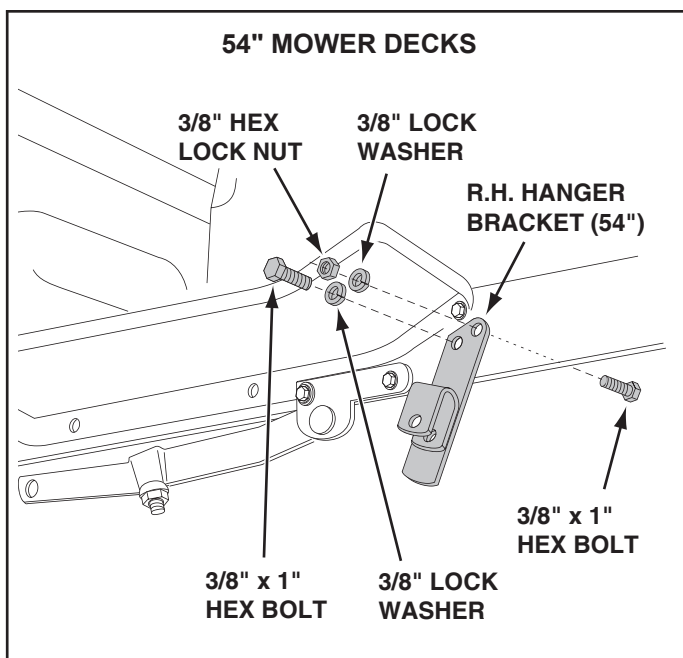

FIGURE 8 **RIGHT SIDE VIEW**
- Assemble the 54" R.H. hanger bracket to the holes where the mower stop bracket was removed on the right side of the tractor frame. Fasten with two 3/8" x 1" hex bolts, two 3/8" lock washers and one 3/8" hex lock nut. See figure 8.